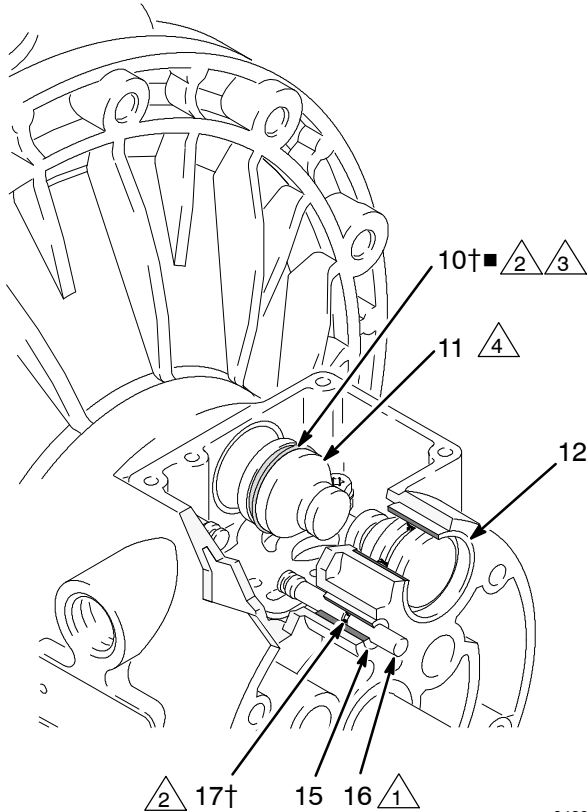

Fig. 9
4. Pull the two actuator pistons (11) out of the bearings (12). Remove the u-cup packings (10) from the pistons. Pull the pilot pins (16) out of the bearings (15). Remove the o-rings (17) from the pilot pins. See Fig. 9.
6. Inspect the bearings (12, 15) in place. See Fig. 9. The bearings are tapered and, if damaged, must be removed from the outside. This requires disassembly of the fluid section. See page 23.
4. Install an o-ring (17) on each pilot pin (16). Grease the pins and o-rings. Insert the pins into the bearings (15), **narrow** end first. See Fig. 9.
5. Install a u-cup packing (10) on each actuator piston (11), so the lips of the packings face the **narrow** end of the pistons. See Fig. 9.
6. Lubricate the u-cup packings (10) and actuator pistons (11). Insert the actuator pistons in the bearings (12), **wide** end first. Leave the narrow end of the pistons exposed. See Fig. 9.